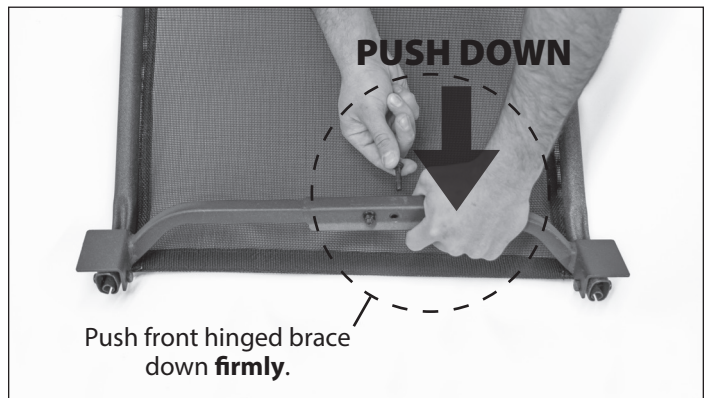

FIGURE 29 - Install previously removed bolt and locknut
- Push down on the front hinged brace and install the previously removed bolt and locknut. **SEE FIGURE 29.**